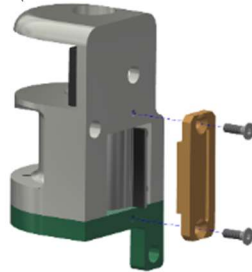

Figure 7-12. Install the Spring Retainer (474-3526)
- 7.3.2 Install the Spring Retainer (474-3526) to the bottom of the Spine-Shoulder Coupler, Top (474-3501-1,2-A) using two M3 X 0.5 X 10 LG. FHCS (Figure 7-12).